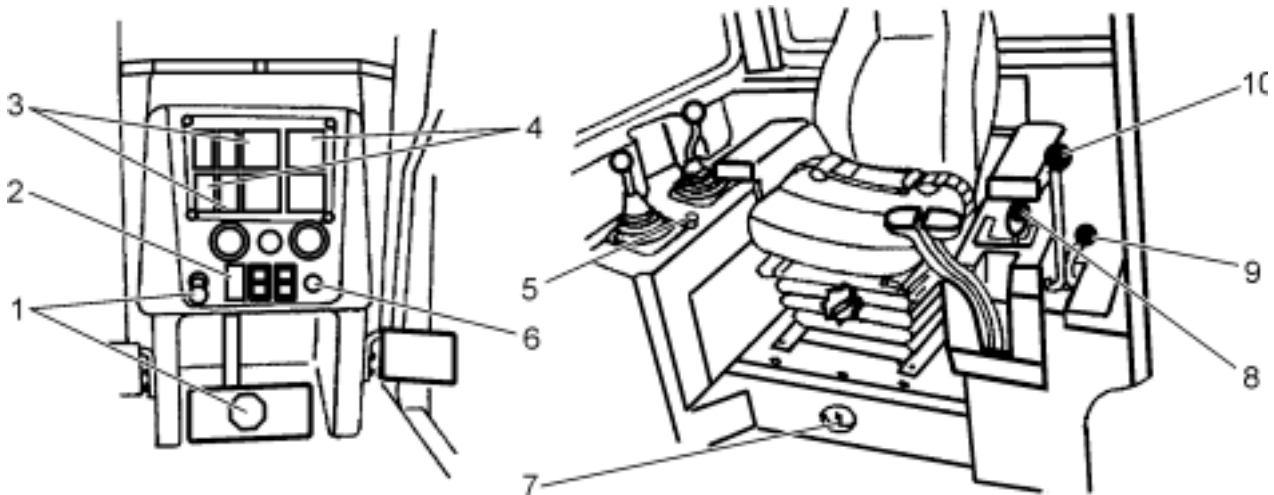

Fig. 4.15. Starting the Engine
4.6.1. NORMAL START (temperature above 0 [°C]) (Fig. 4.15)
4.6.2. ETHER INJECTOR START (temperatures below 0 [°C]) (Fig. 4.15)
4.6.3. ENGINE START AFTER OIL CHANGE OR PROLONGED STANDSTILL (over 5 days) (FIG.4.15).